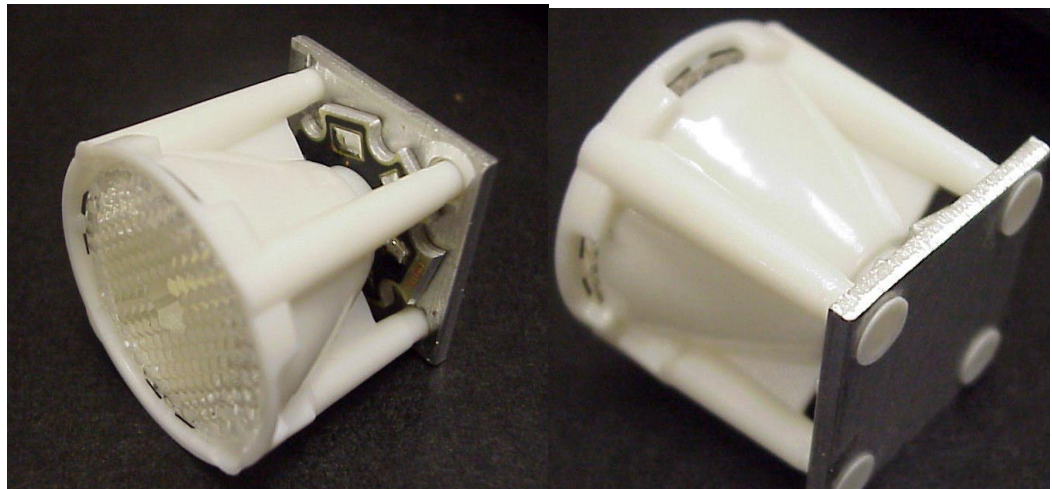

Figure 1. Heat-staked assembly of lens/lens holder to aluminum heat sink with Luxeon Star LED sandwiched between.
2. Place this assembly (with 4 legs upward) into your fixture and while holding the assembly together use the soldering tool with custom tip to deform the feet of the lens holder. The resulting heat stake should be similar to Figure 1.
7. Activate the press to perform the heat staking cycle. The resulting heat stake should be similar to Figure 1.